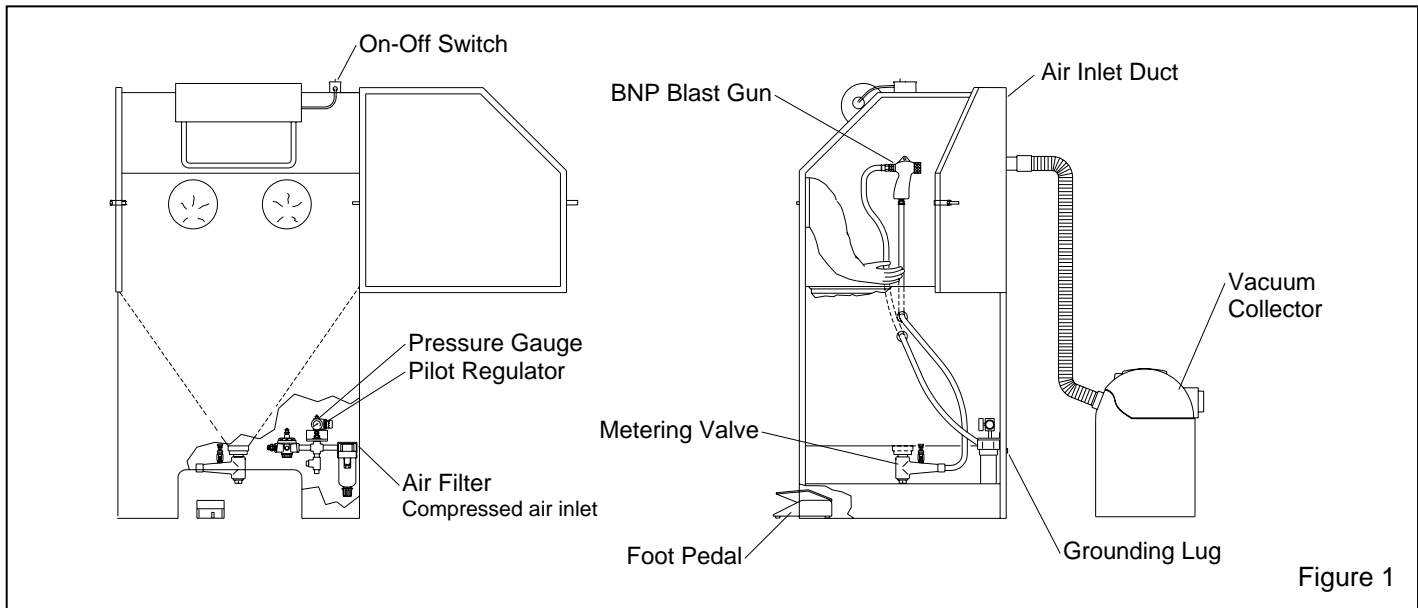

Figure 1
1.3.1 See Figure 1 for arrangement of components. INEX blast cabinets enclose the blasting environment to provide efficient blast cleaning while maintaining a clean surrounding work area. Production rates are influenced by size of nozzle, compressor output, working pressure, type and size of media, angle and distance of the nozzle from the blast surface. INEX cabinets consist of two major components:
2.1.1 See Figure 1 for the general arrangement. Place all components in a convenient location where compressed air and electrical services are available. The cabinet location must comply with OSHA and local safety codes. Allow for full access to all doors and service areas, and for efficient handling of large parts. Determine the best location, and position all units before final assembly.